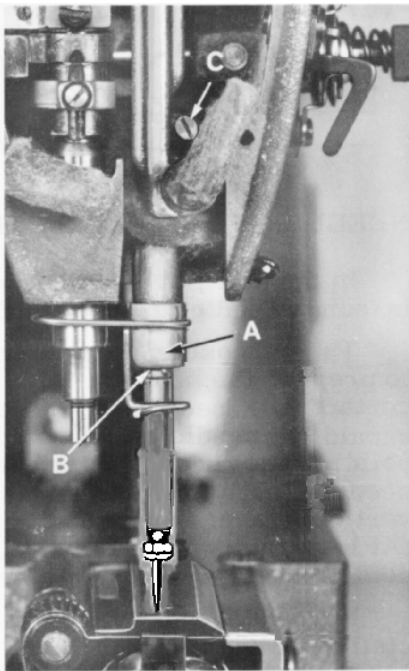

Fig. 13
When the needle bar is at its lowest position the upper timing line (B, Fig. 13) should be EVEN with the lower edge of the lower needle bar frame (A).
Remove throat plate. Loosen three set screws (A) in the hook, and hold the hook and the bobbin case holder in such a position as to prevent interference with the needle. Turn handwheel in operating direction until the needle bar is at its lowest position, and continue to turn the handwheel until the needle is ascending and the middle timing make (Fig. 13) used in setting the needle bar is even with the lower edge of the needle bar frame (A).